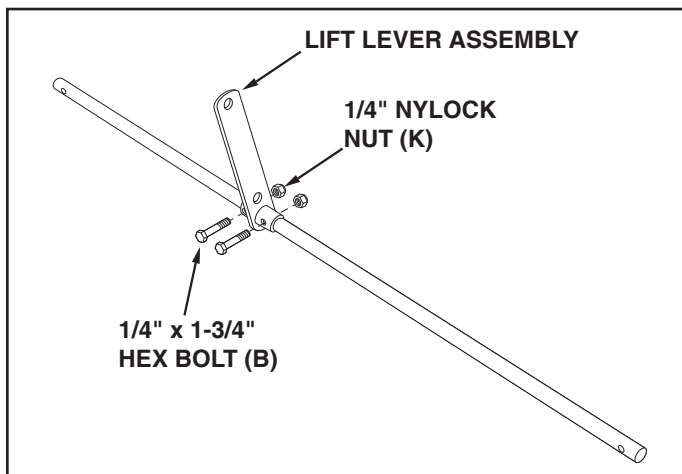

FIGURE 1
1. Attach the lift lever assembly to the two holes in the middle of the shaft using two 1/4" x 1-3/4" hex bolts (B) and a 1/4" nylock nuts (K). **Tighten.** See figure 1.